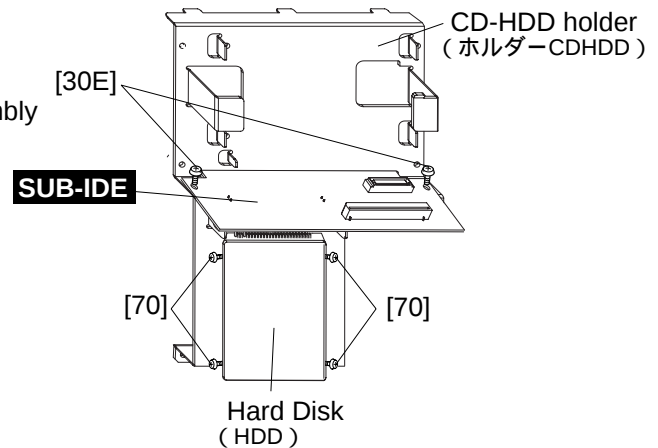

Fig.3-1(図3-1)
- 3-3 Remove the two (2) screws marked [30E] and four (4) screws marked [70]. The SUB-IDE circuit board and the HDD can then be removed from the CD-HDD holder. (Fig.3-1)
- 3-4 The SUB-IDE circuit board and the HDD can then be divided. (Fig.3-1)
- 3-3 [30E]のネジ2本と[70]のネジ4本を外して、ホルダー CDHDD からSUB-IDEシートと共にHDDを外します。(図3-1)
- 3-4 SUB-IDEシートとHDDを分割します。(図3-1)